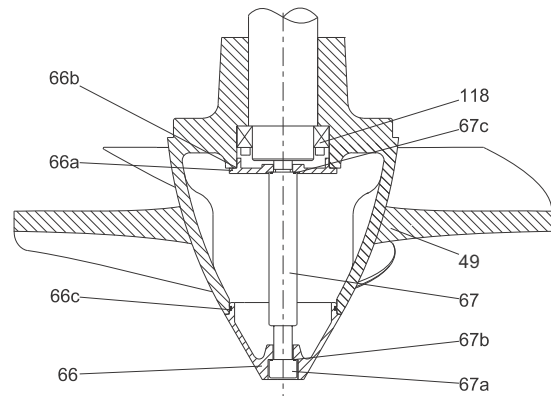

Fig. 105 Propeller, KPL 700-1800
5. Lubricate and fit the O-ring (pos. 66b) on the Power-lock® cover (pos. 66a). See fig. 105.
6. Lubricate and fit the O-ring (pos. 67c) on the support screw (pos. 67).
7. Mount Power-lock® cover (pos. 66a) and fit the support screw (pos. 67) and tighten it according to section 7. *Tightening torques and lubricants*.
8. Mount the propeller cap (pos. 66), the O-ring (pos. 66c), the screw (pos. 67a), the O-ring (pos. 67b) and tighten the screw according to section 7. *Tightening torques and lubricants*.